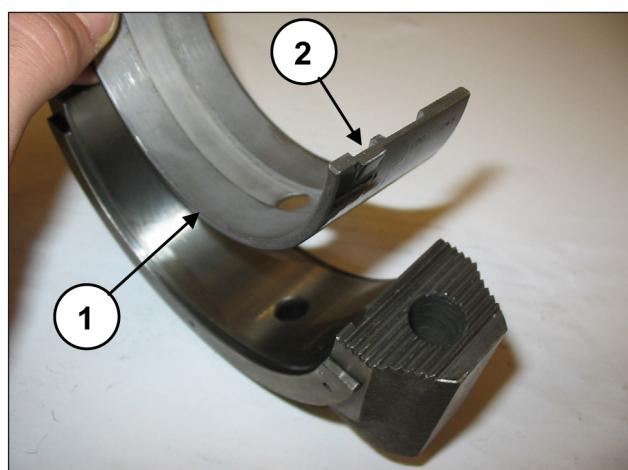

Fig. 82
Apply the lower half-bearings to the caps (pos. ①, Fig. 82)
positioned in their housing on the cap (pos. ②, Fig. 82).